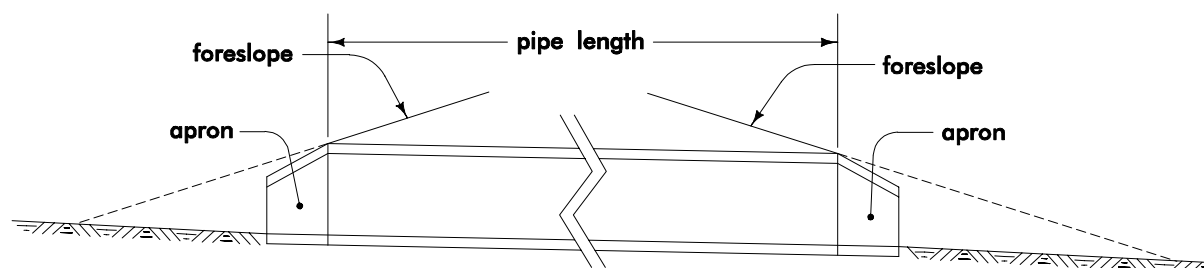

Figure 1: Determining pipe length in CADD. Note: pipe length will require adjustment if concrete pipe is specified, see Example 2.
2. The cross-section should show the top width (W), foreslope at the pipe, depth of fill at the centerline over the pipe (H), and the pipe with aprons. The dimensions left and right of the entrance or safety dike centerline should also be given. These dimensions can be determined in CADD.
4. Pipe lengths should be determined using measurement tools in CADD. Pipe length is measured to the nearest foot (0.1 meters) between the intercepts of the top of the pipe with the foreslopes (see Figure 1). Pipe lengths should be determined assuming a CMP Pipe (see Road Design Details 1601, 1602, and 1603). Pipe lengths will need to be adjusted when concrete pipes are specified (see Example 2).
The values obtained using Figure 1 provide pipe lengths excluding aprons (Standard Road Plans RF-3 and RF-5 provide more information regarding aprons). This length shall be used as payment length. If concrete pipes are specified, pipe and payment length are slightly reduced by subtracting two times the distance "C" determined in Standard Road Plan RF-3 from the value obtained for the pipe length. Since concrete pipes are typically provided in two-foot (0.5-meter) lengths, this new value is then rounded up to the nearest two-foot increment (or nearest 0.5 meters).